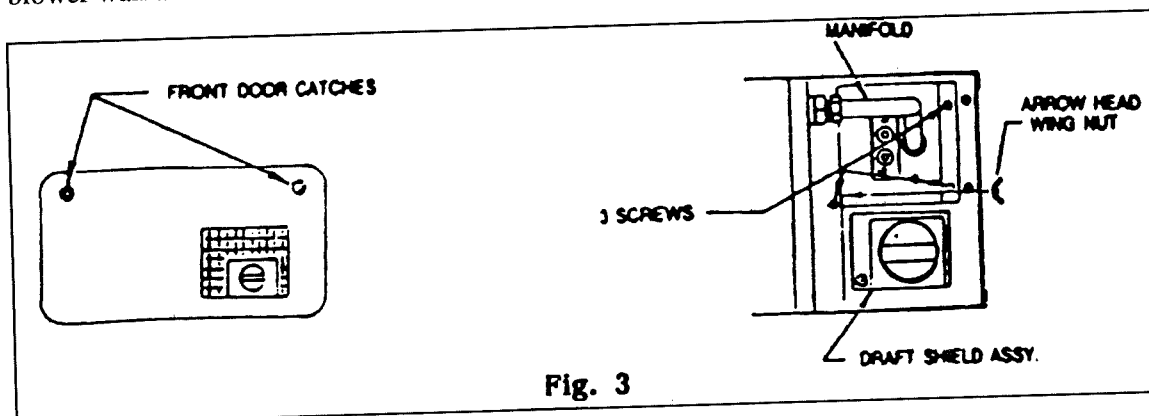

Fig. 3
To remove the burner assembly from the control box, first remove the draft shield assembly by opening the front door catches and unscrewing the wing nut located on the side of the combustion air housing cover and front screw. See Fig. 3. Next unscrew the manifold from the blower wall and remove the three (3) screws on the burner box.